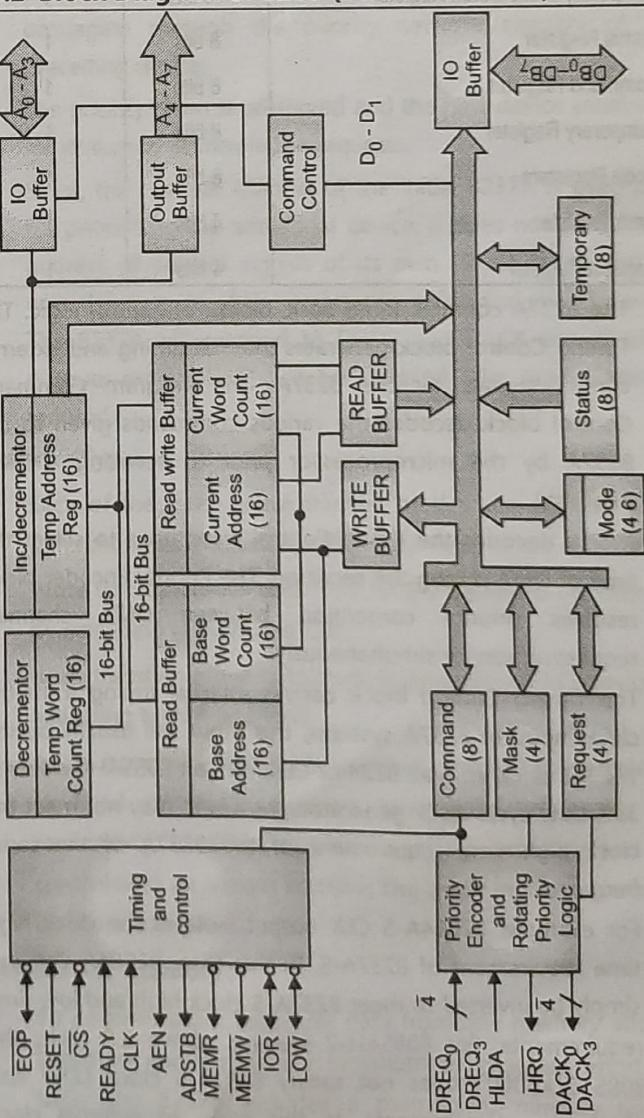

Fig. 5.9 : Block diagram
- From Fig. 5.9 it can be seen that state S_3 is used to extend the access time of the read pulse. By removing state S_3 , the read pulse width is made equal to the write pulse width and a transfer consists only of state S_2 to change the address and state S_4 to perform the read/write. S_1 states will still occur when $A_8 \pm A_{15}$ need updating. (see Address Generation). Timing for compressed transfers is found in Fig. 5.9.
- The falling edge of Address Strobe (ADSTB) is used to load these bits from the data lines to the latch. Address Enable (AEN) is used to enable the bits onto the address bus through a three-state enable. The lower order address bits are output by the 8237A directly. Lines $A_0 \pm A_7$ should be connected to the address bus. Fig. 5.9 shows the time relationships between CLK, AEN, ADSTB, $DB_0 \pm DB_7$ and $A_0 \pm A_7$.